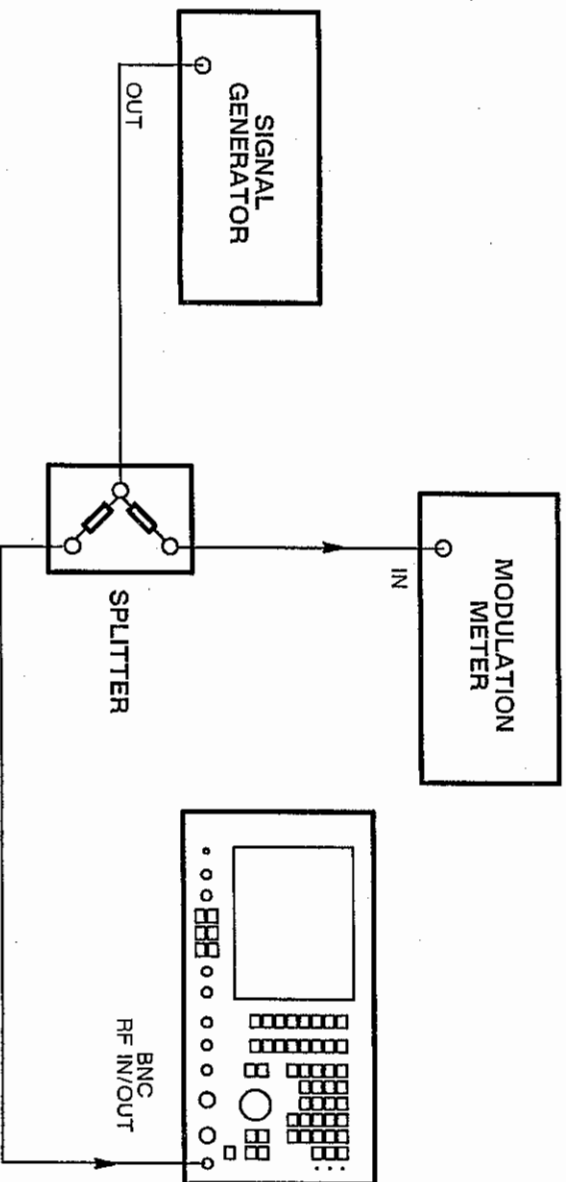

Fig. 6-2 Test equipment connections for oscilloscope demodulated FM and demodulated AM
- (1) Connect the signal generator to the input of the power splitter. Connect the outputs of the power splitter to the RF IN/OUT BNC socket and to the modulation meter. See Fig. 6-2.
- (2) On the 2955A, set the MODE to TRANSMITTER TEST, MOD to FM, SCOPE/BAR to SCOPE, FILTER to 0.3-3.4 kHz BAND PASS and RF IN/OUT socket to BNC.
- (2) On the 2955A, set the MODE to TRANSMITTER TEST, MOD to AM, SCOPE/BAR to SCOPE, FILTER to 0.3-3.4 kHz BAND PASS and RF IN/OUT socket to BNC.
- (3) Set the signal generator carrier frequency to 100 MHz, level to 7 dBm, AM and 1 kHz internal modulating frequency.
- (4) Set the modulation meter to AM, p-p/2, in a 0.3 to 3.4 kHz bandwidth.
- (5) On the 2955A, set the VERT scale range to 20%/div.
- (6) Adjust the signal generator depth until the waveform is shown on the oscilloscope as 80%.
- (7) On the modulation meter, check that the reading is 72 to 88%.
- (8) Repeat (5) to (7) for the other VERT scale ranges and modulation depths as follows:-